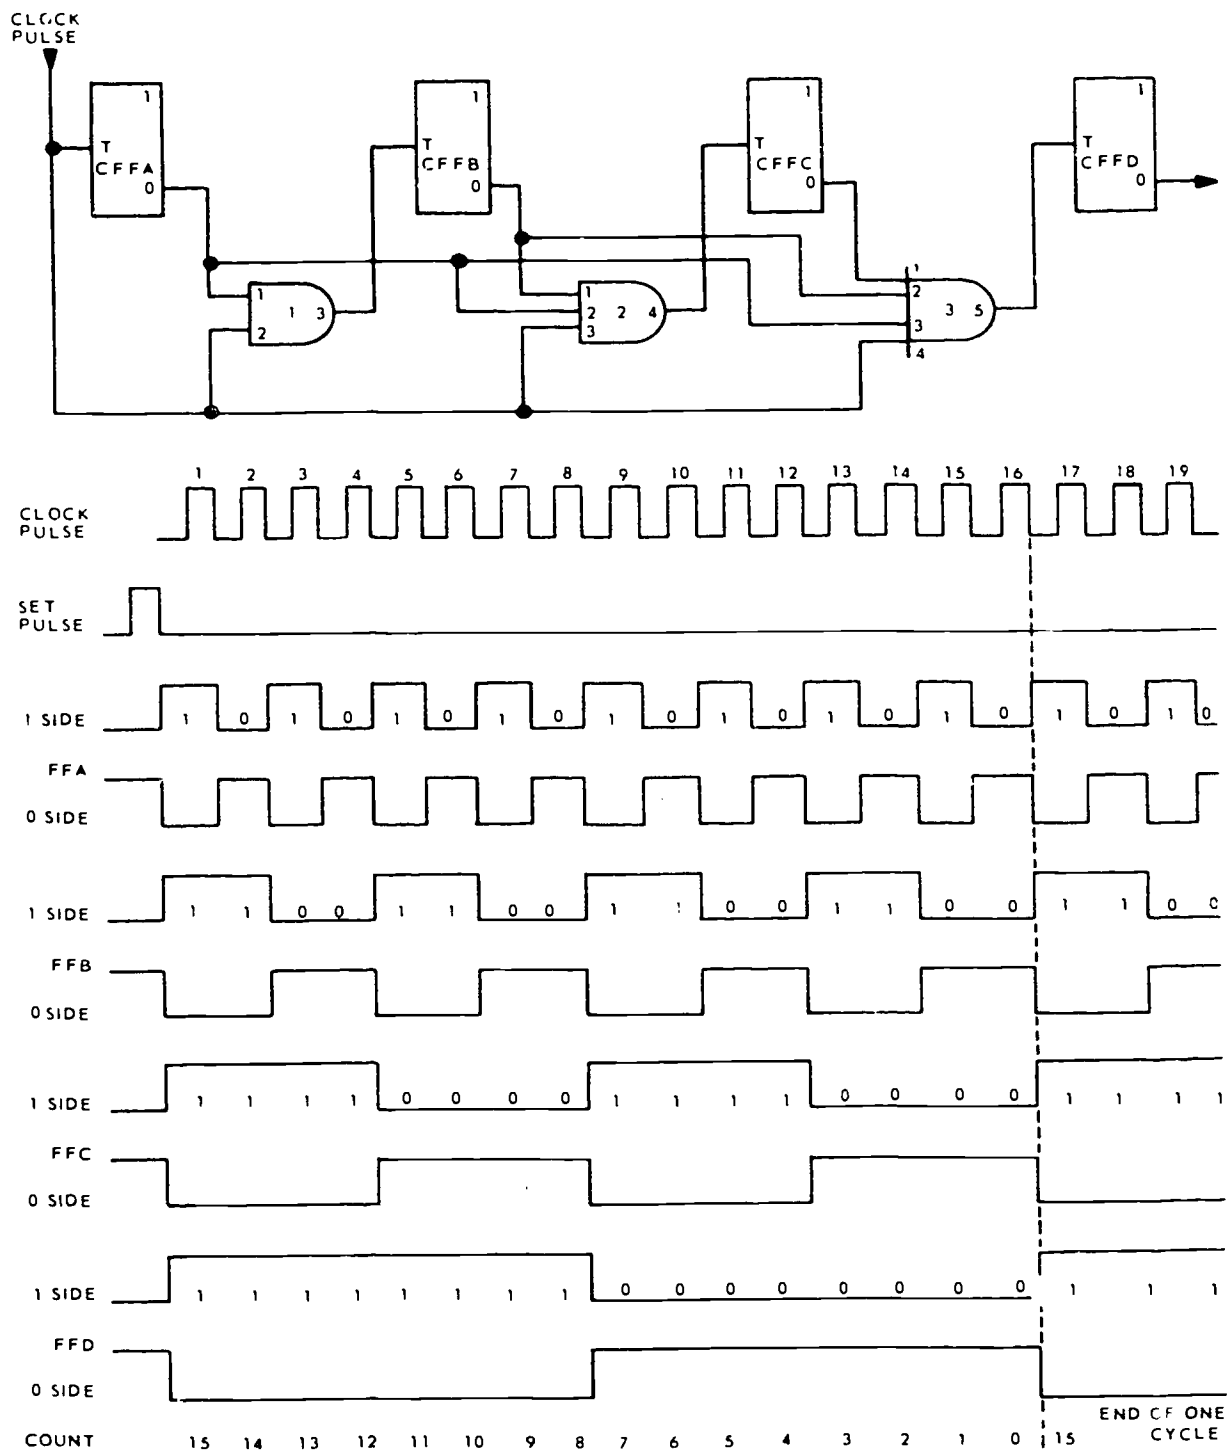

Figure 1-19. Parallel-down counter.
Parallel down-counter (using downclocks). A four-stage positive logic parallel down-counter is shown in figure 1-19. The waveshapes are the same as those for a positive logic serial down-counter. The operation of both circuits is the same except for the fact that, in a serial counter, each
Using the logic diagram and waveshapes in figure 1-19, work the counter through one complete cycle. This counter has a maximum count of $15_{(10)}$ or a modulus of 16.
Observe the waveshapes in figure 1-19. Notice that the output pulse width (PW) of each stage becomes longer than the one before it. As an example, it takes two complete clock pulses to produce one cycle output from FF-A. So we can say that the pulse repetition time (PRT) of the output is twice as long as the input PRT. If we assume that the clock pulses have a PW of 1 microsecond and a PRT of 2 microseconds, the output from FF-A would have a PW of 2 microseconds, and a PRT of 4 microseconds. From this, we can say that the output PW is equal to the input PRT, or that the output PRT is twice the input PRT. Notice that this is true for each stage of the counter.